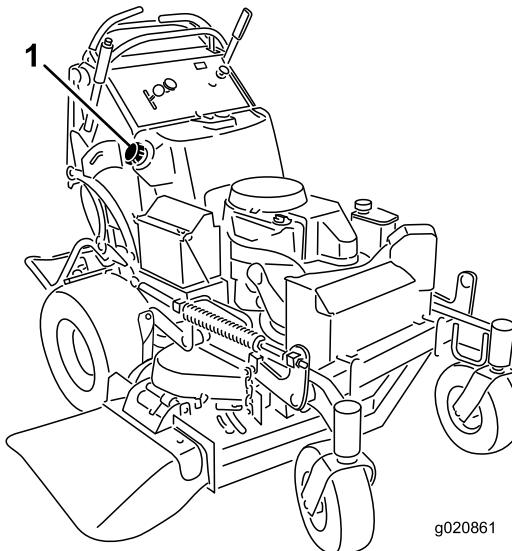

Figure 47
3. Clean around the fuel cap to prevent debris from getting into the fuel tank (Figure 47).
6. Using the syphon pump, drain the fuel into a clean fuel can (Figure 47).